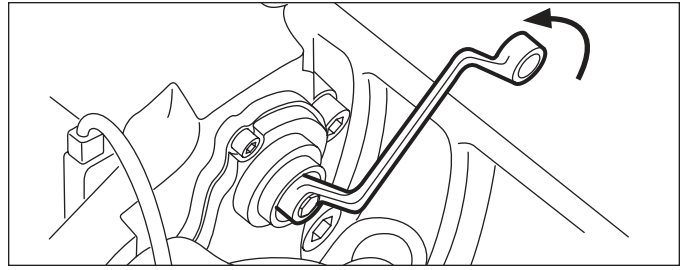

Figure 20 – Backing-Off (Increasing) the Running Clearance
4.2.2 Using a 10 mm six-point box-end wrench, turn the Shear Adapter (61) **counterclockwise** and listen for the sound of 3 clicks as the mechanism backs-off (increases) the running clearance. Note: Do not use an open-ended wrench as this may damage the adapter. See Figure 20.